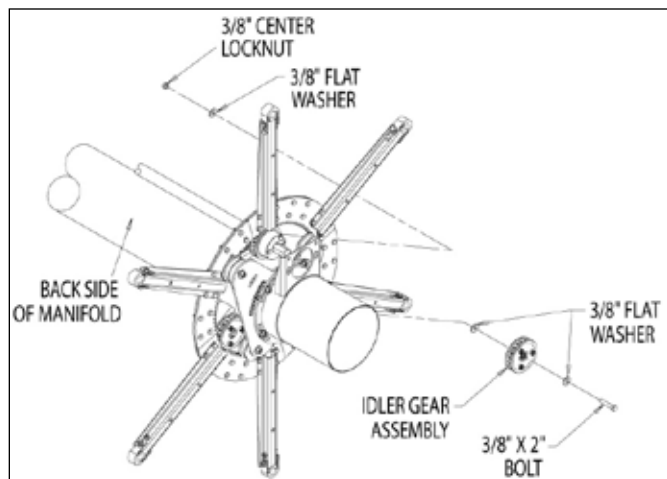

Figure 14, Idler gear installation (front side)
1. Assemble one idler gear assembly each to the RH & LH end clamps, and to all idler mount clamps (front side of manifold only), using one 3/8" X 2" bolt, three 3/8" flat washers and one 3/8" center locknut per each idler gear assembly (Figure 14).